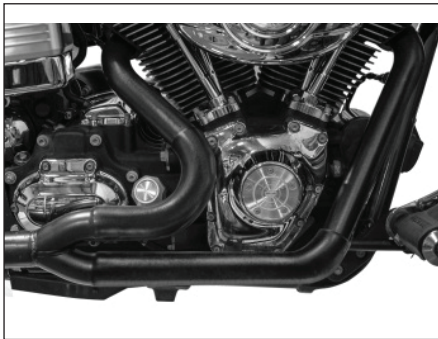

Fig 4
4. Install the head pipe assembly to the exhaust port using the factory exhaust port nuts. Do not tighten the nuts at this time to allow for adjustment. (Figure 4)